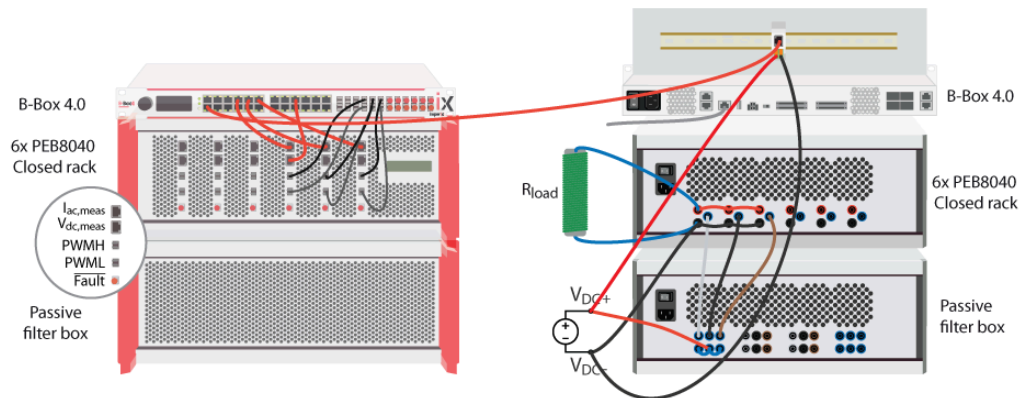

Figure 2. Interleaved boost converter wiring schema
The wiring of the system is executed as shown in Fig. 2. The main points to consider are as follows:
- The DC source is correctly connected by linking DC+ to the outputs of the inductors, connected in star configuration, and DC- to VDC- of the modules (see Fig. 2).